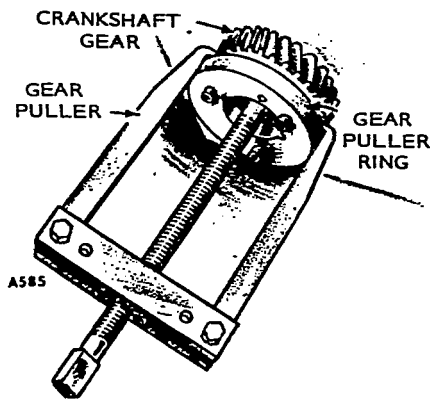

FIGURE 54. REMOVING CAMSHAFT GEAR
2. Pull off crankshaft gear. It has 2-1/4-20 UNC tapped holes for attaching a gear pulling ring. Use care not to damage teeth if the gear is to be re-used. See Figure 54.